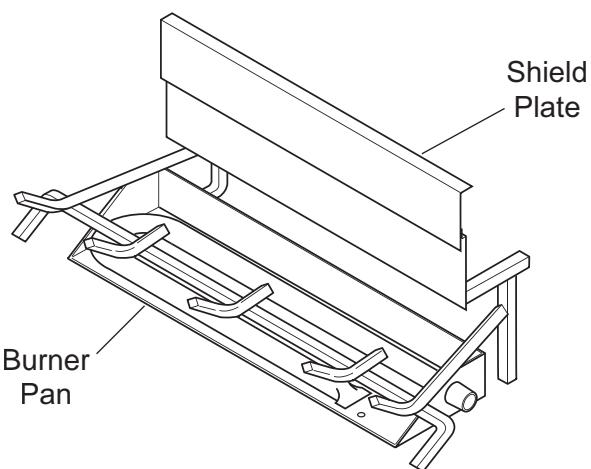

Figure 102 - Sliding Shield Plate Down Back of Burner Pan
1. Slide shield plate down back of burner pan. See *Figure 102*.